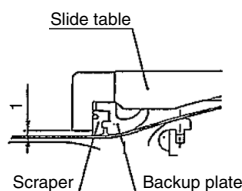

Fig. 3
- The dust seal bands of both sides inserted in the head cover to the position drawn with a pen (Fig. 3). Then, at the same time, insert the dust seal band in the groove of cylinder tube by pulling it to both sides. (Fig. 4)